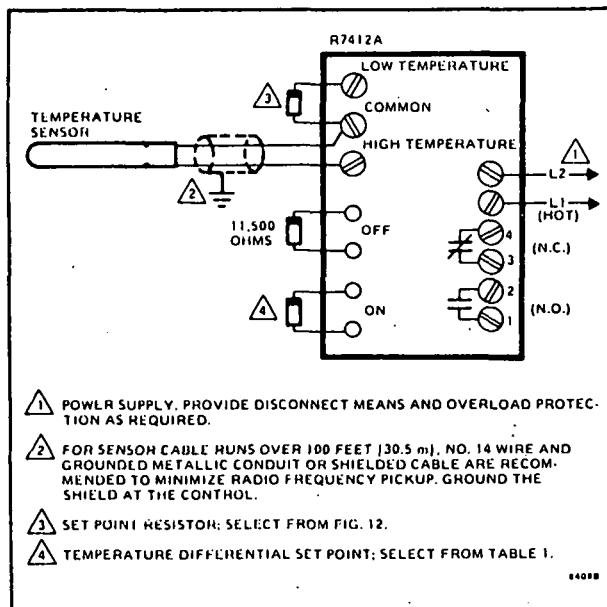
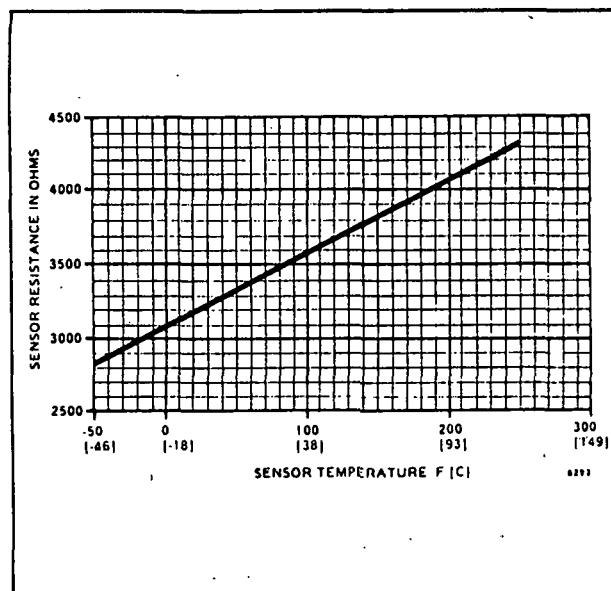

FIG. 10-SINGLE FUNCTION SET POINT CONTROL.
FIG. 12-R7412A SINGLE FUNCTION TEMPERATURE SET POINT. CHOOSE A RESISTANCE ACCORDING TO THE DESIRED SET POINT.
Use the following procedures to change the factory-set differential temperature controller to a single function temperature controller as indicated in Figs. 10 and 11.
3. To adjust the temperature setpoint, select a resistor value according to the graph in Fig. 12. Connect the selected setpoint resistor to the low temperature and common terminals for make on temperature rise control (Fig. 10). Connect to high and common terminals for make on temperature fall.